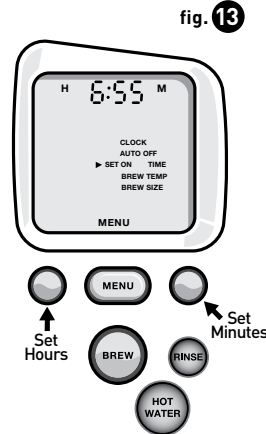

fig. 13
- After setting the correct time (required), press the MENU Button three times to program On Time feature. The LCD Control Center will show the programming options with a small arrow next to "SET ON TIME" (fig. 13).